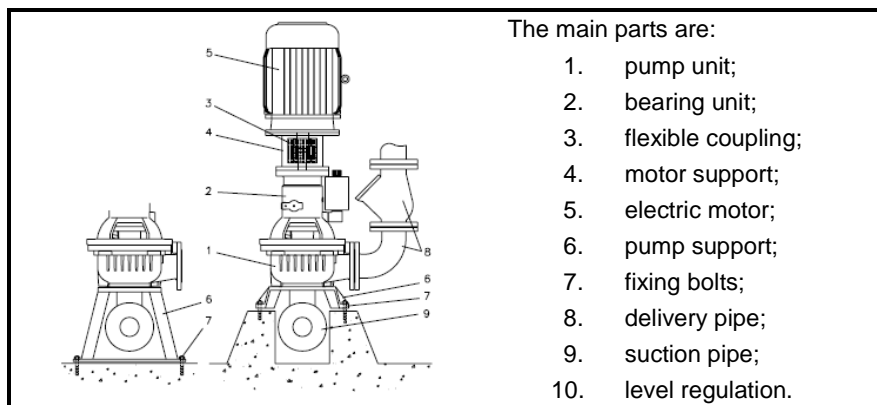

Fig. 7.4
Vertical installation on support. See fig. 7.4.
- Fixation of the base-plate to the floor, see fig. 7.4 pos. 7.